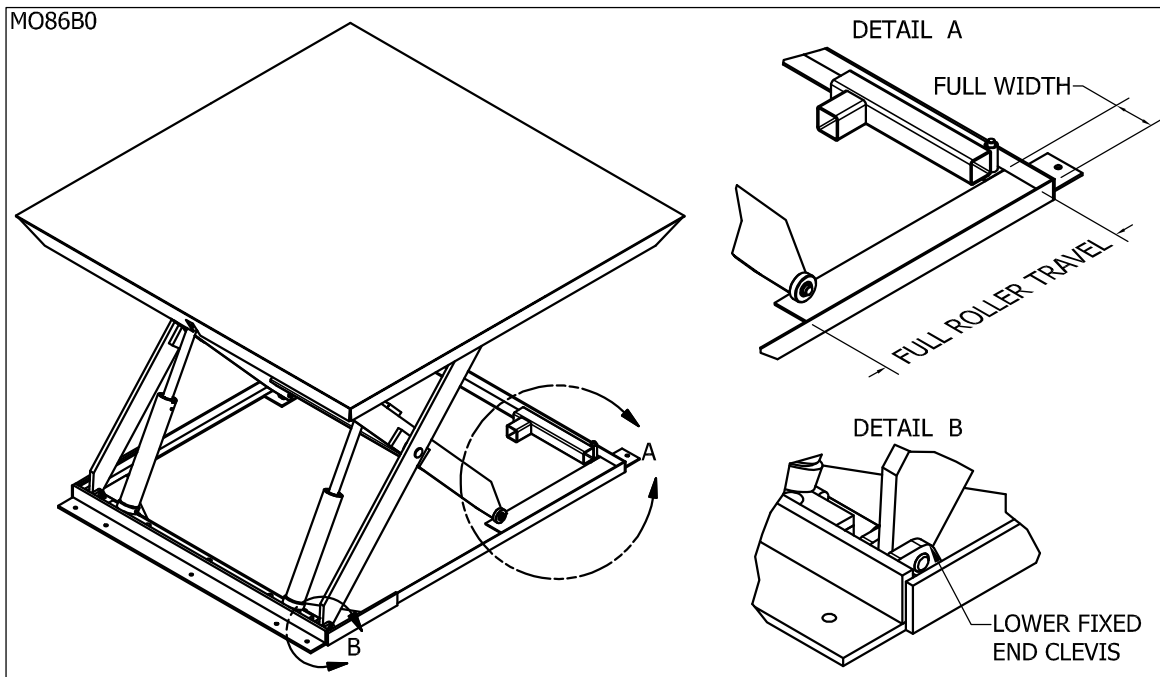

Figure 5: Shim Beneath the Fixed End Clevises and Full Roller Travel
12. If required, level the unit on both sides by shimming under the four lag locations, the full length and width of the roller travel and the lower fixed end clevises. (See "Figure 5: Shim Beneath the Fixed End Clevises and Full Roller Travel" on page 10)
14. When installing into a concrete pit, lag the unit to the pit floor with recommended fasteners, 5/8" Dia. x 4 1/2" long wedge anchors with a minimum shear value of 12,900 lbs. (5 850 kg), and tension value of 10,200 lbs. (4 630 kg). (See "Figure 5: Shim Beneath the Fixed End Clevises and Full Roller Travel" on page 10) Torque to manufacturer specifications. If the mounting surface is not concrete, utilize a fastener to suit the structural values indicated and appropriate for the mounting surface.